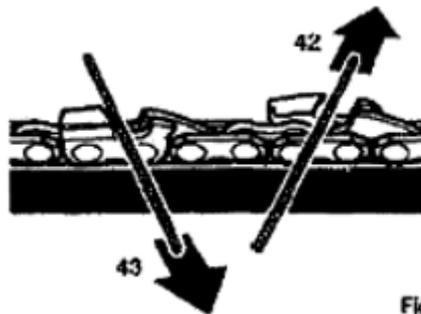

Fig.26
5. Put a few firm strokes on each tooth. File all left-hand cutters (42) in one direction.
6. Then move to the other side and file the blades on the right (43) in the opposite direction. Remove things from time to time with a wire brush. See Figure 26